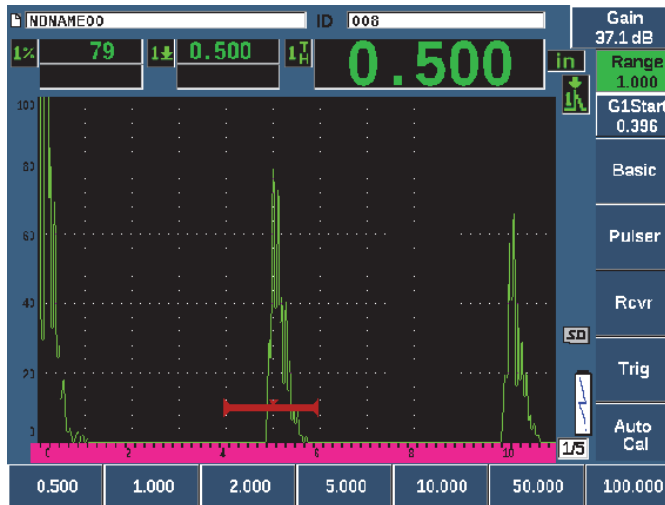

Figure 3-17 The Range value
15. Press RANGE, and then adjust the screen range to the desired setting (see Figure 3-17 on page 78).